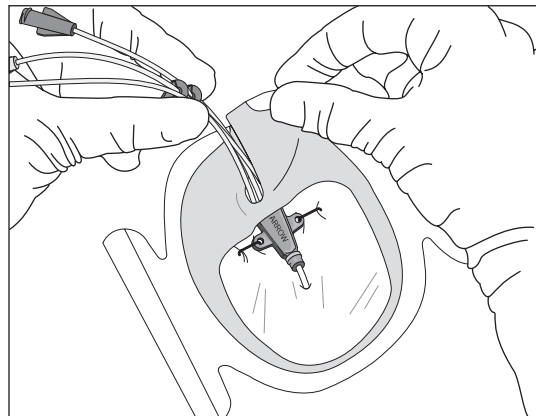

Figure 4
- Overlap softcloth tabs under catheter to form a tight seal around catheter hub and extension line(s) (refer to Figure 4).